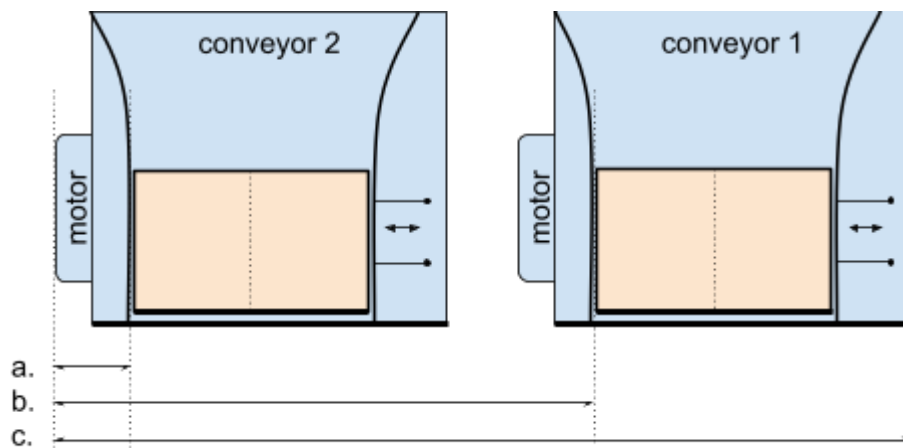

Figure 76: Measure the conveyor dimensions as if they were one big conveyor.
- Fixed guide width for conveyor 2, measured as in **figure 76**.
- Fixed guide width for conveyor 1, measured as b in **figure 76**.
- Measure *conveyor total width* from the left side of the left conveyor to the right side of the right conveyor. See total width for both conveyor 1 and 2, measured as c in **figure 76**.